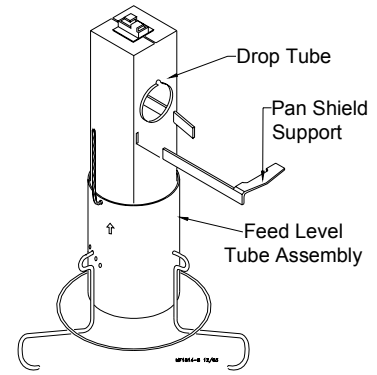

Figure 20. Drop Tube Installation
- Insert drop tube into feed level tube assembly, see **figure 20**. Install the pan shield supports in the slots in the drop tube.